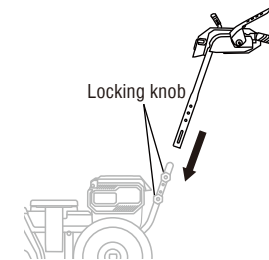

Fig. 2B
2. Lift the upper handle assembly, align the holes in the side rails with the holes in the lower handle, then secure the handle assembly with the bolts and locking knobs. (Fig.2B)